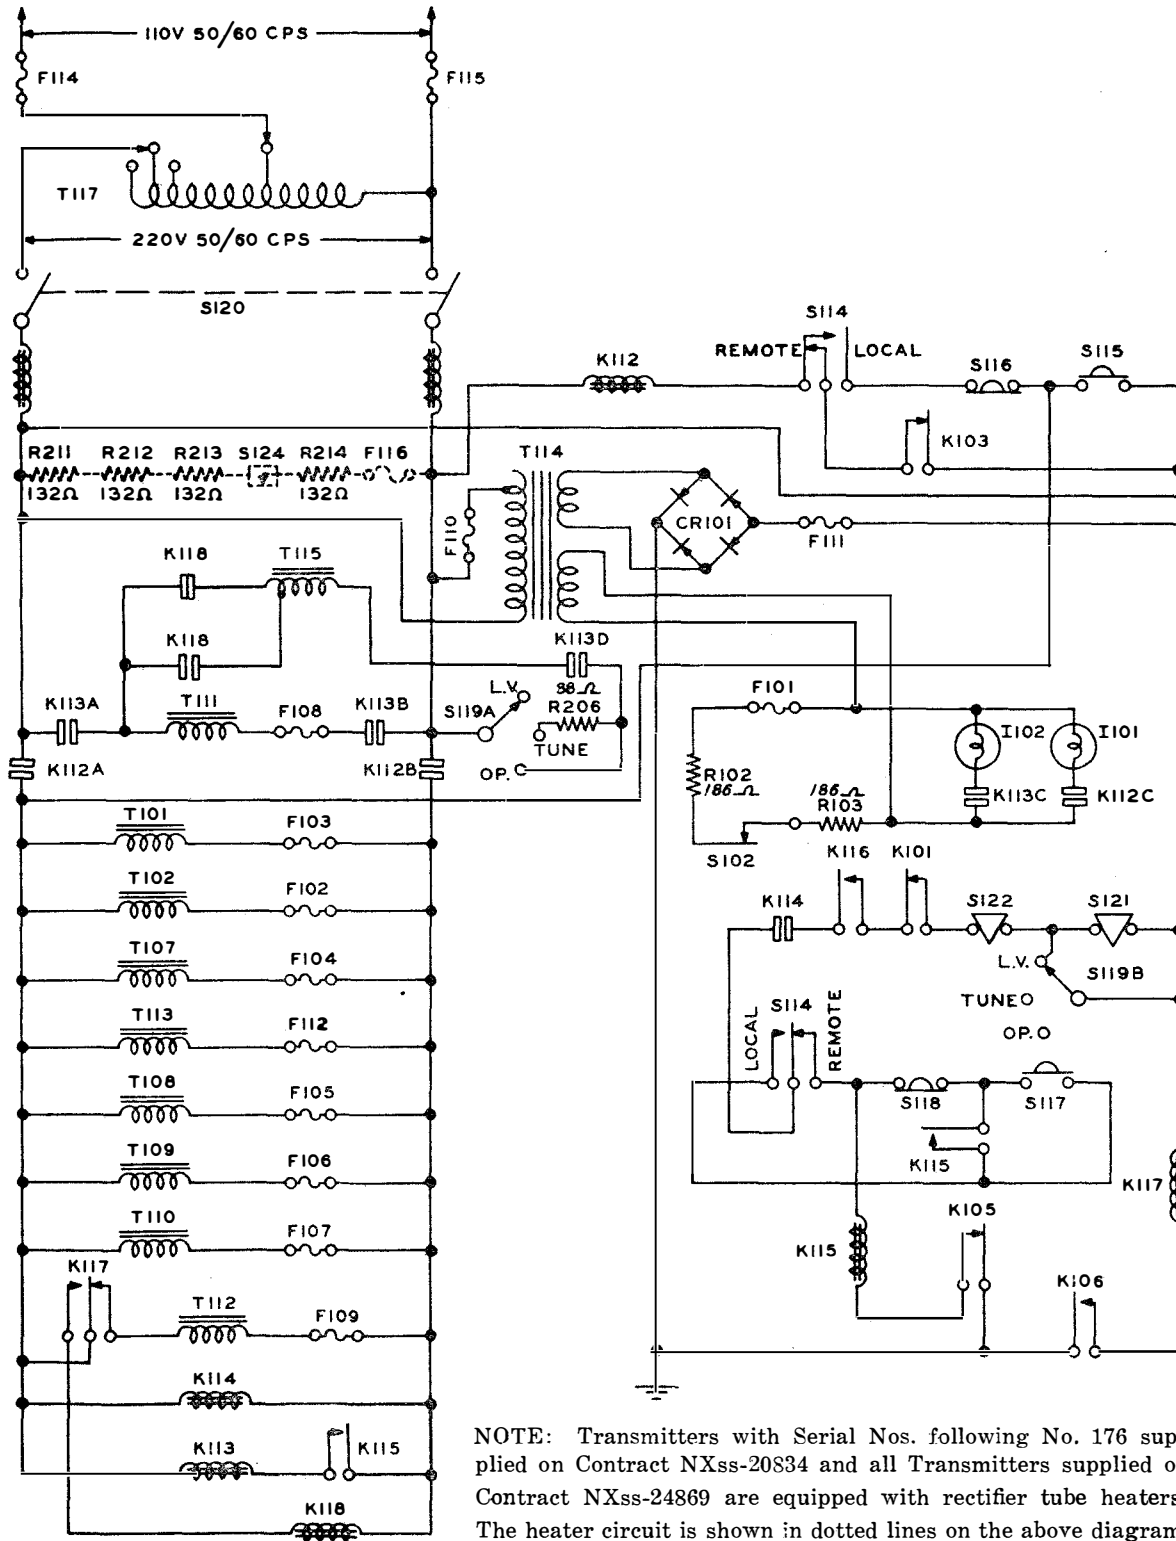

Fig. 2 A-C Primary and Relay Control Circuits
Refer to Fig. 2 and Fig. 65 p. 172. When the power switch, S120, is operated, relay K112 is immediately energized by the circuit through S120, the contacts of the transmitter "OFF" relay, K103, the normally closed contacts of the LOCAL-REMOTE switch, S114, and the coil of relay K112. The operation of switch S120 also applies power to the primary of step-down transformer T114. Transformer T114 has two secondary windings, one supplies 110 volts for application to the filament power pilot lamp, I101, the plate power pilot lamp, I102, and the master oscillator compartment heater elements, R102 and R103, and the other supplies the a-c voltage that is
A rectifier heater circuit was added to all transmitters with Serial Nos. following 170 on Contract NXss-20834 and to all transmitters on Contract NXss-24869. Heaters were added for both the low voltage and high voltage rectifier tubes. The heater circuit is controlled by a thermal switch, S124. The circuit is indicated with dotted lines on Fig. 2.
**2.3. POWER CONTROL CIRCUITS.** Refer to Fig. 2. This transmitter has been designed for normal operation from a remote position with complete control from the Remote Control Unit. The closing of the primary power switch, S120, energizes the coil of filament relay K112 and energizes the step-down transformer T114. The operation of relay K112 applies power to the primary of the P.A. filament transformer, T101, the exciter filament transformer, T102, the speech amplifier filament transformer, T107, the high voltage rectifier filament transformer, T113, the bias rectifier filament transformer, T108, the bias rectifier plate power transformer, T109, the L.V. rectifier filament transformer, T110, and the modulator filament transformer, T112. All transformer primary circuits are fused to prevent damage to the transformers and associated circuits. The operation of the filament relay also applies power to the filament pilot lamp, I101. A thermostat, S102, or thermostats S102 and S125 are connected in series with resistors R102 and R103, controls the temperature within the master oscillator compartment by opening and closing the circuit to the heating resistors.